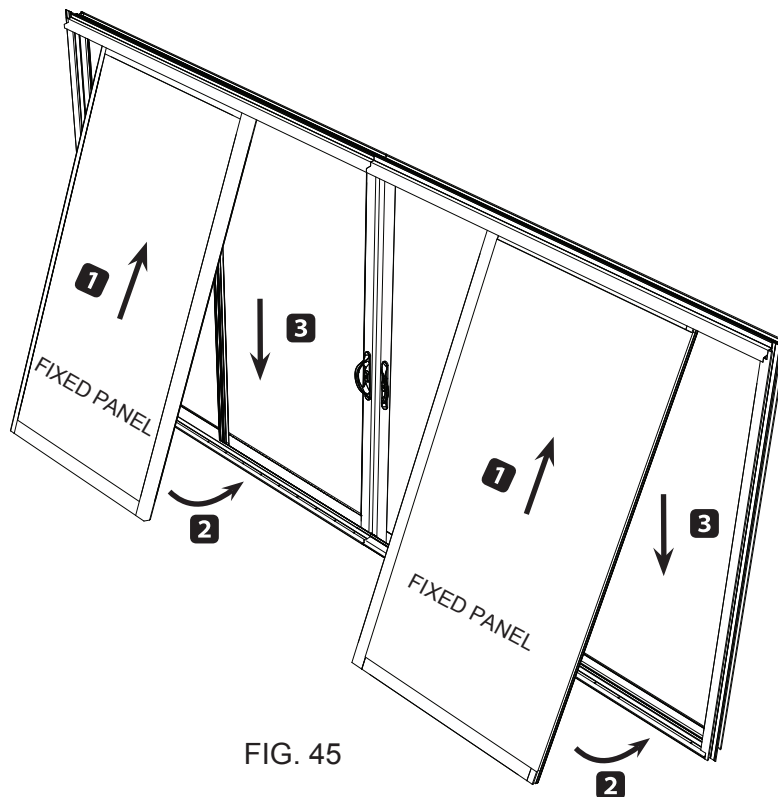

FIG. 45
- 5. Install both fixed panels from the exterior. (FIG. 45)